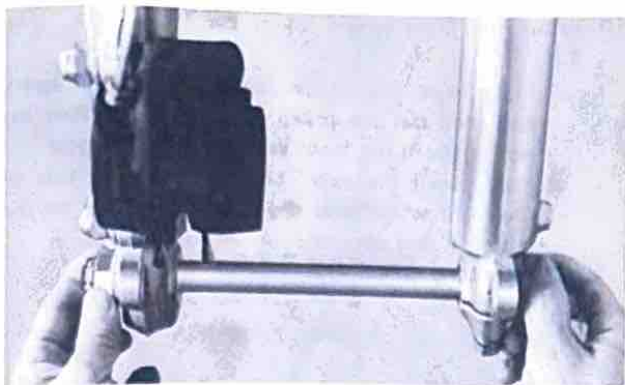

Fig. 13
6. Loosen the two nuts securing the axle holder (left side front fork leg). Next, remove the axle nut, plain washer, and pull out the axle. (Fig. 13)